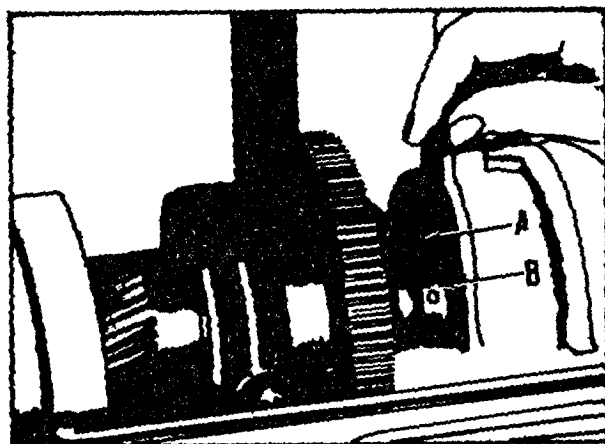

Fig. 16.
1. If the spindle should develop end play or spin too freely, loosen two set screws (A) Fig. 16, and tighten thrust nut (B) until the end play is removed and the spindle turns with a slight drag. THEN BACK OFF THRUST NUT (B) FIG. 16, 10 DEGREES TO PROVIDE PROPER PRELOAD OF THE BEARINGS. Retighten set screws (A).
2. Should you find the bearings running above 145 degrees farenheit the following procedure should be used to loosen the preload on the roller bearings of the lathe spindle. Loosen two set screws (A) Fig. 16, and loosen thrust nut (B) 180 degrees. Using a wooden mallet, strike the chuck end of the spindle, (be sure to protect the threads on the spindle). This impact will move the bearings apart. Now adjust bearings as described in Step 1.